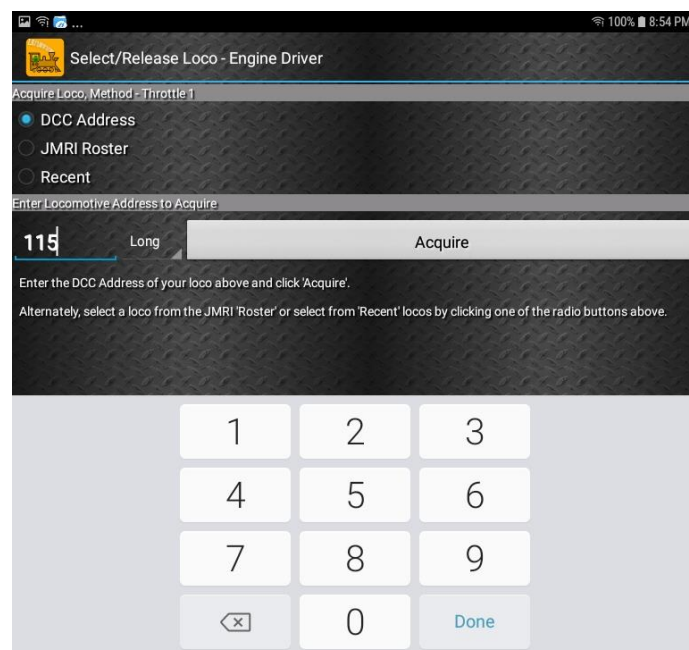

Figure 18 Selecting a locomotive by typing its DCC Address
- (12) The Throttle screen should then appear, ready to select a loco and drive. Tap the Select button, check the “DCC Address” option and type the address of your locomotive either short or long as in Figure 18. Tap Acquire.